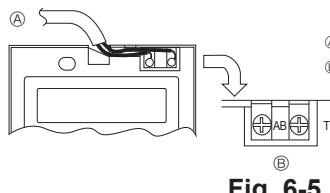

Fig. 6-5
2) Connecting procedures (Fig. 6-5)